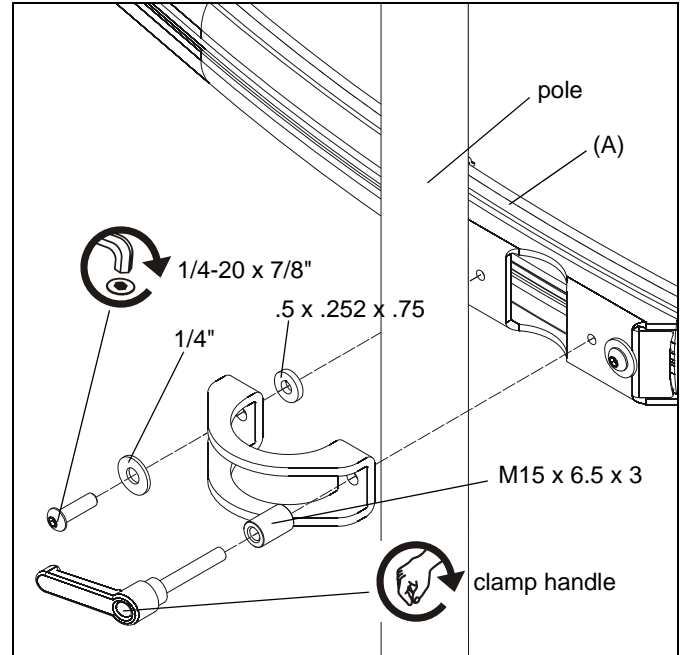

Figure 2
4. Reattach pole clamp to array extrusion by inserting clamp handle through M15 x 6.5 x 3 spacer and pole clamp hole and into right array hole. Insert removed 1/4-20 x 7/8" button head cap screw through 1/4" washer, pole clamp hole, .500 x .252 x .750 spacer and into left array hole. (See Figure 2)